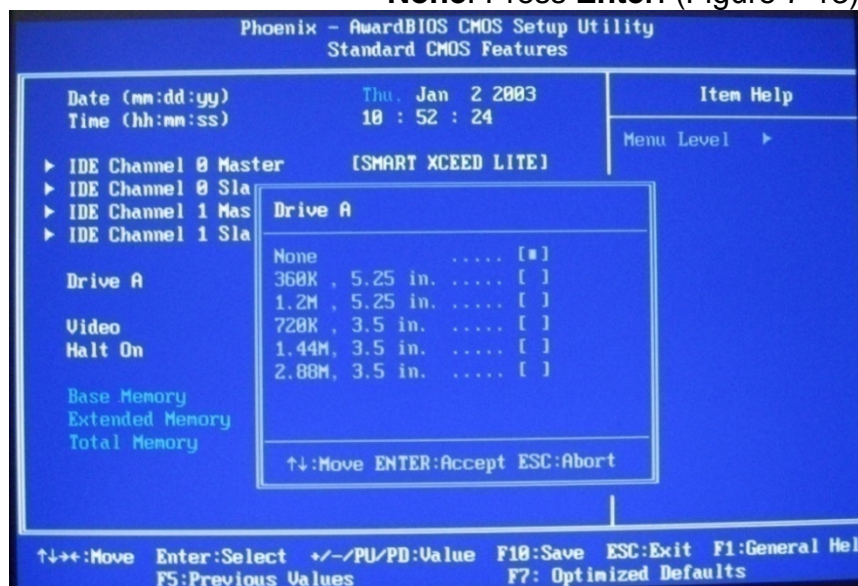

Figure 7-13 Drive A Popup Screen
3. On the **Drive A Popup** that appears on the **Standard CMOS Features** screen select **None**. Press **Enter**. (Figure 7-13).